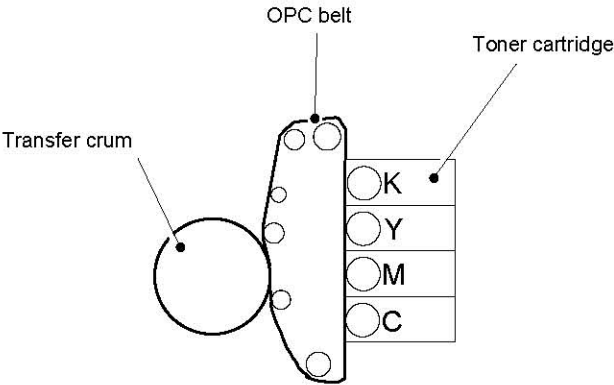

Fig. 4-3
- (a) The printer has a toner cartridge of each color yellow, magenta, cyan and black as shown in Fig. 4-3.